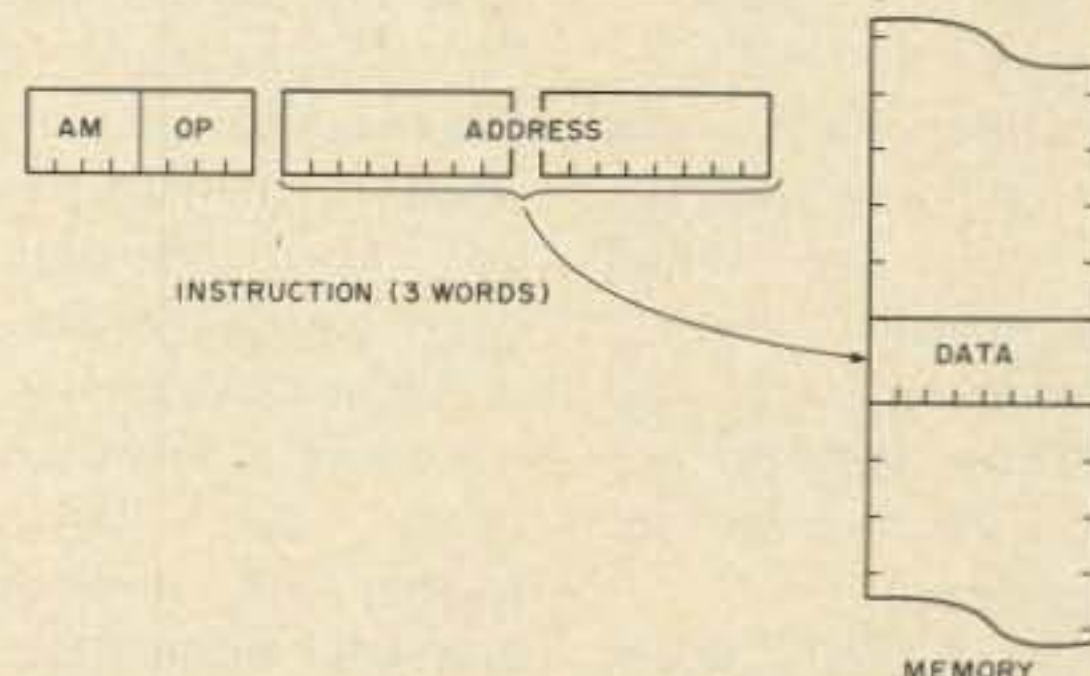

Fig. 5. Absolute addressing (6800).
**Absolute.** The data is in memory, and its address is a part of the instruction, as shown in Fig. 5. The size of this address part determines how much of the system memory is "directly addressable." If the address part of the instruction is less than the address space (the total amount of memory the CPU is able to address at any time), then the address is said to be "abbreviated" and is usually further classified by the way the CPU derives that part of the address which is not specified in the instruction. Many CPUs command both an absolute addressing mode and several varieties of abbreviated addressing modes.